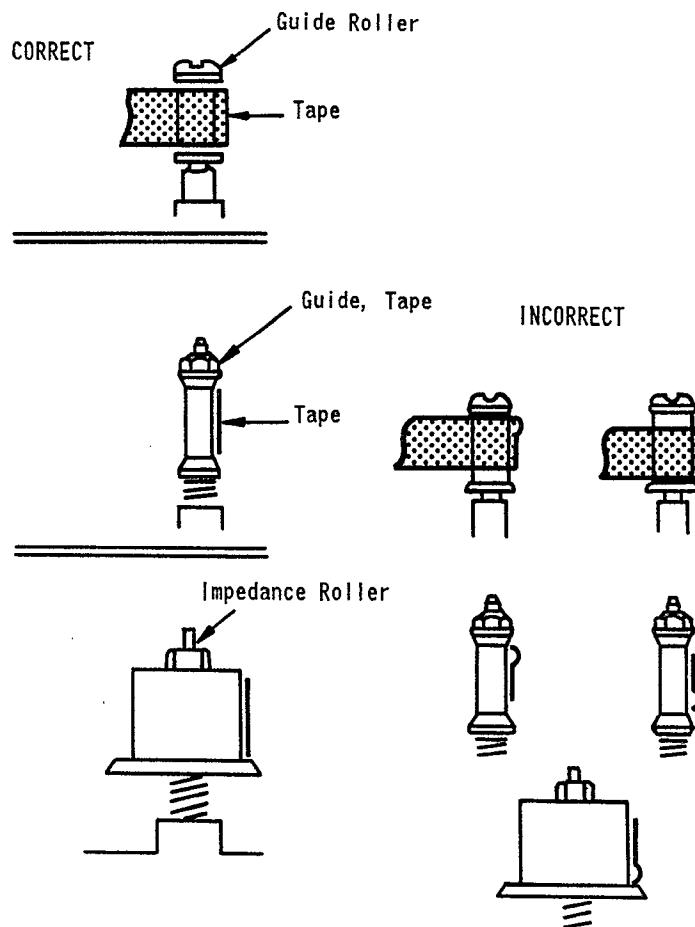

Fig. 5-3
Adjust the height by turning the driver slightly so that the tape runs on the guide roller as shown in Fig. 5-3, and the lower edge of the tape runs along the lead surface of the cylinder.
5. During loading, play and unloading, observe the tape at the supply and take-up guide rollers, tape guide and impedance roller. Confirm that there is no curling or creasing etc., as shown in Fig. 5-3.